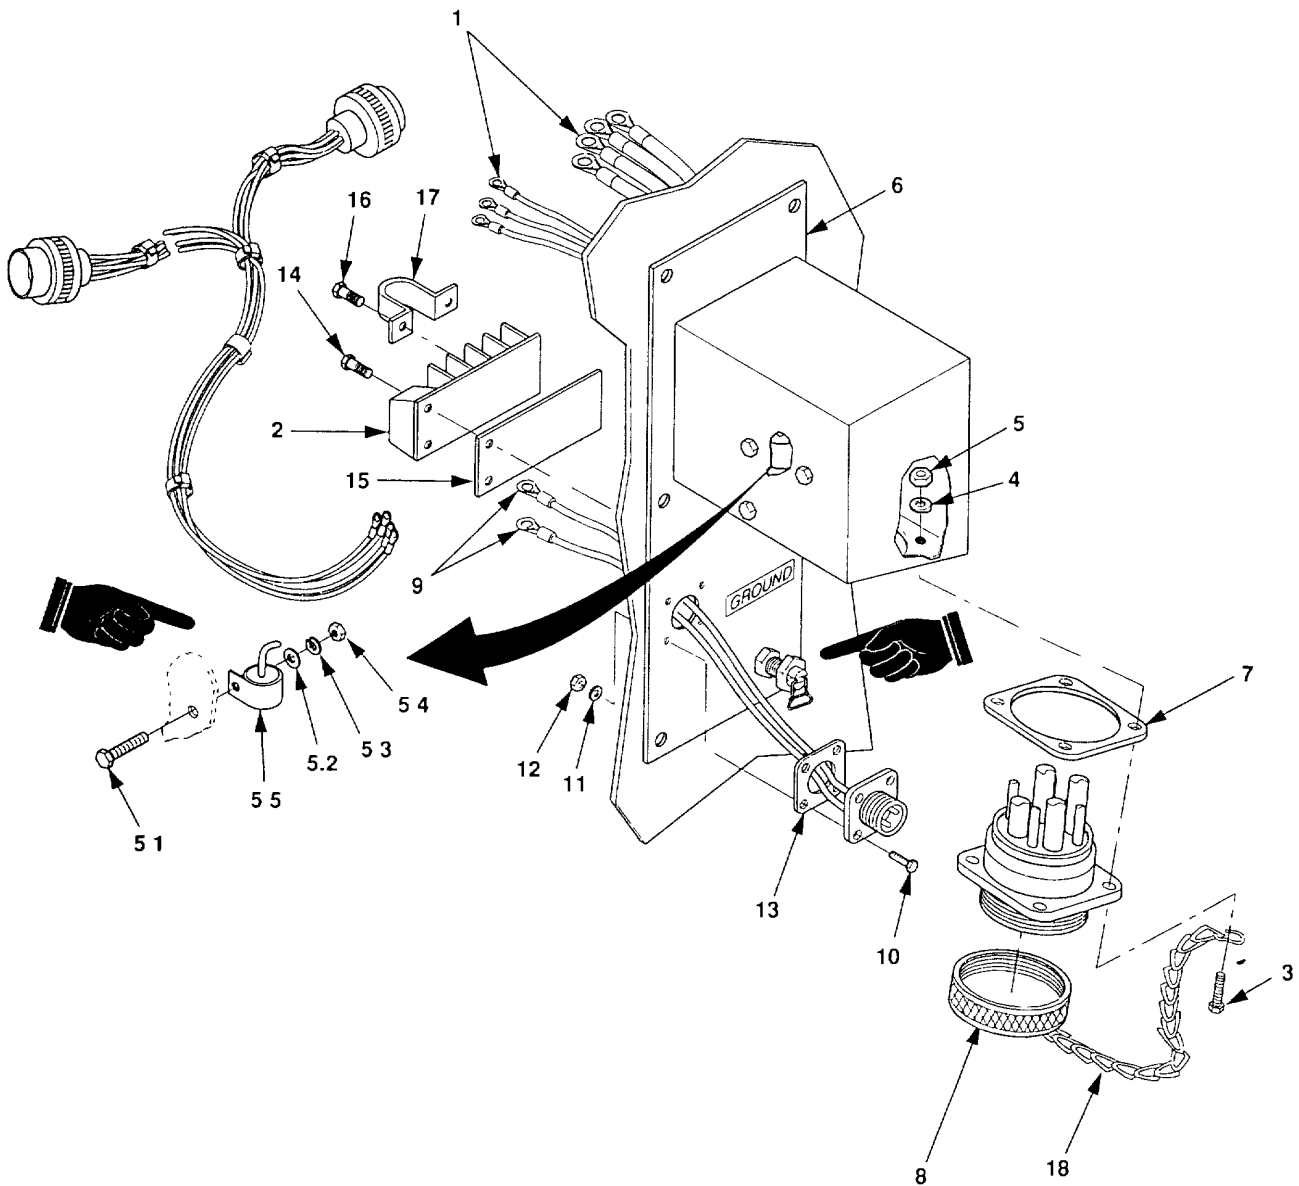

Figure 5-2. Adapter Plate Assembly Repair.
5-3. **Adapter Plate Assembly Repair.** (See figures 5-2 and 5-3.) The adapter plate assembly may be repaired by replacing defective components or by repairing faulty wiring harnesses.
- (1) Open generator set curbside front side panel.
- (2) Disconnect P3 power/control cable and P4, P7 low fuel cable from adapter plate assembly.
- (3) Disconnect ground cable from adapter plate assembly GROUND.
- (4) Disconnect J3 wiring harness (1, figure 5-2) from generator set load terminals and terminal board TB2 (2). Remove four screws (3), four flat washers (4) and four self-locking nuts (5) from J3 connector.
- (5) Remove three bolts (5.1), three flat washers (5.2), three lockwashers (5.3), and three nuts (5.4) that secure the surge protectors (5.5) to the adapter plate (6). Pull J3 wiring harness out of adapter plate (6). Remove EMI gasket (7) and connector cover (8).
- (6) Disconnect J4 wiring harness (9) from terminal board TB2 (2). Remove four screws (10), four flat washers (11) and four self-locking nuts (12) and pull J4 wiring harness out of adapter plate (6). Remove EMI gasket (13).
- (7) Disconnect all wires from terminal board TB2 (2). Remove two screws (14) and remove terminal board and marker strip (15) from adapter plate (6). If necessary, unscrew two terminal screws (16) and remove jumper (17).